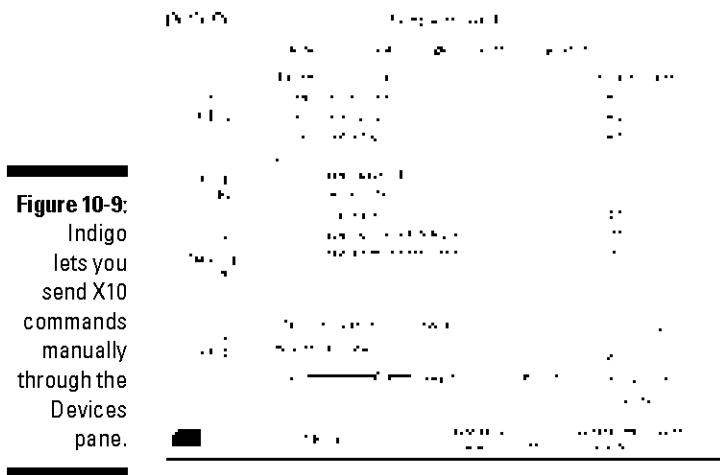

Figure 10-9:
The main window in Indigo has four buttons on the left side that change the windows to the right (see Figure 10-9). This is what they do:
- ✓ **Devices:** This is where you configure the X10 devices, such as lamps and appliances, motion detectors, and thermostats. You add new devices by clicking the New button. You also set addresses and give them names (such as Bedroom Lamp). You can also manually control each device by selecting it and using the controls at the bottom. The bottom of Figure 10-9 shows the lamp-dimming controls.
1. Click the Devices button at the upper left of Indigo's main window (refer to Figure 10-9).